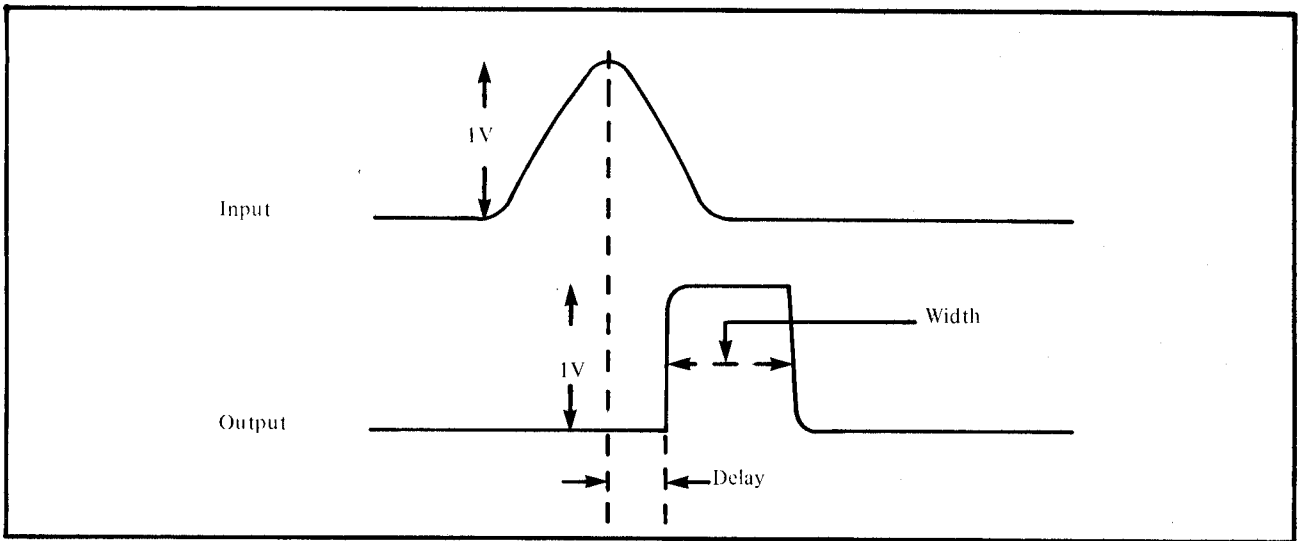

Figure 3-2. Input-Output Waveforms.
1. Connect an oscilloscope probe (A input) to the test point at the input. Set the amplifier for 1  $\mu$ sec shaping and gain sufficient to give a 1 volt output. Observing the amplifier output, set the oscilloscope for 0.1V sensitivity and 50  $\mu$ sec/cm sweep. Adjust the Pole/Zero compensation of the shaping amplifier for correct compensation. Change the scope sensitivity to .5V/cm and the sweep speed to 1  $\mu$ sec. Now observe the Model 1454 input (A input) and Output (B input) at the same time on the scope. The waveshapes should be similar to those shown in Figure 3-2.